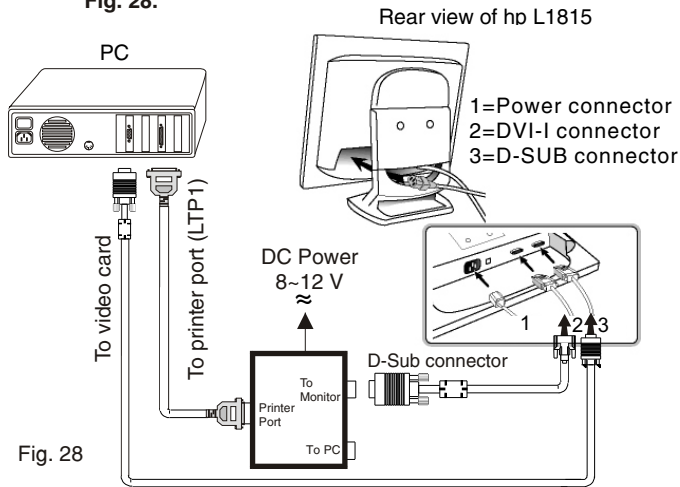

Fig. 28
Step 1: Connecting all cables and alignment box as shown in Fig. 28.